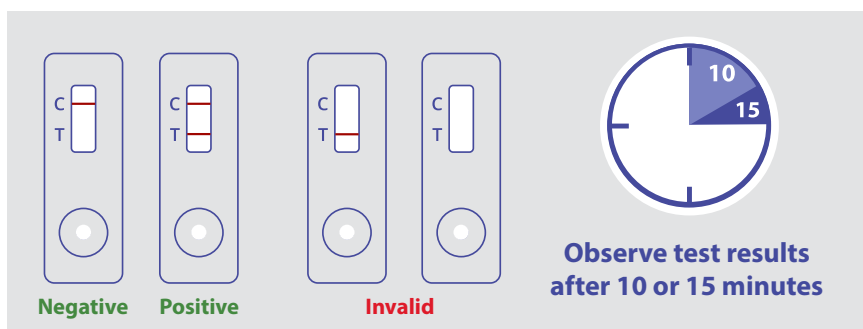

Figure 3. Test Outcomes
8.2.1. A negative result is indicated by the development of a strong control line only (upper line "C"). A negative result will not develop color at the test line (lower line). An example of a negative result is displayed in **Figure 3** labeled **"Negative"**.
8.2.2. A positive result will develop at the test line (lower line "T") in addition to the control line (upper line "C"). The strength of the test line development will be dependent on the amount of tree nut protein present in the sample; any visible line is considered to be a positive result. An example of a positive result is displayed in **Figure 3** labeled **"Positive"**.
8.2.3. Failure of the control line to appear regardless of test line development is an invalid result. In addition, any line malformation visible on the membrane denotes an invalid test. Examples of malformations would be dark spots, gaps or incomplete line development. Examples of invalid results are displayed in **Figure 3** labeled “**Invalid**”. In the event of an invalid test, the procedure should be repeated using a new test device.